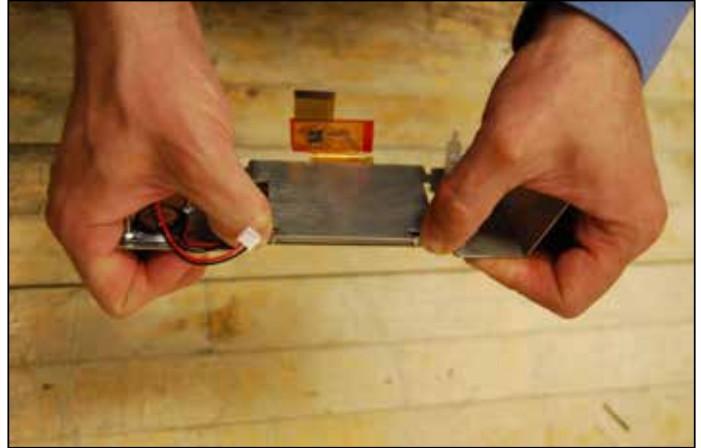

Figure 23e
2. Separate the LCD from the bracket. The LCD may be glued or taped to the bracket. Push evenly with two thumbs to remove LCD from the bracket. (Figure 23e)